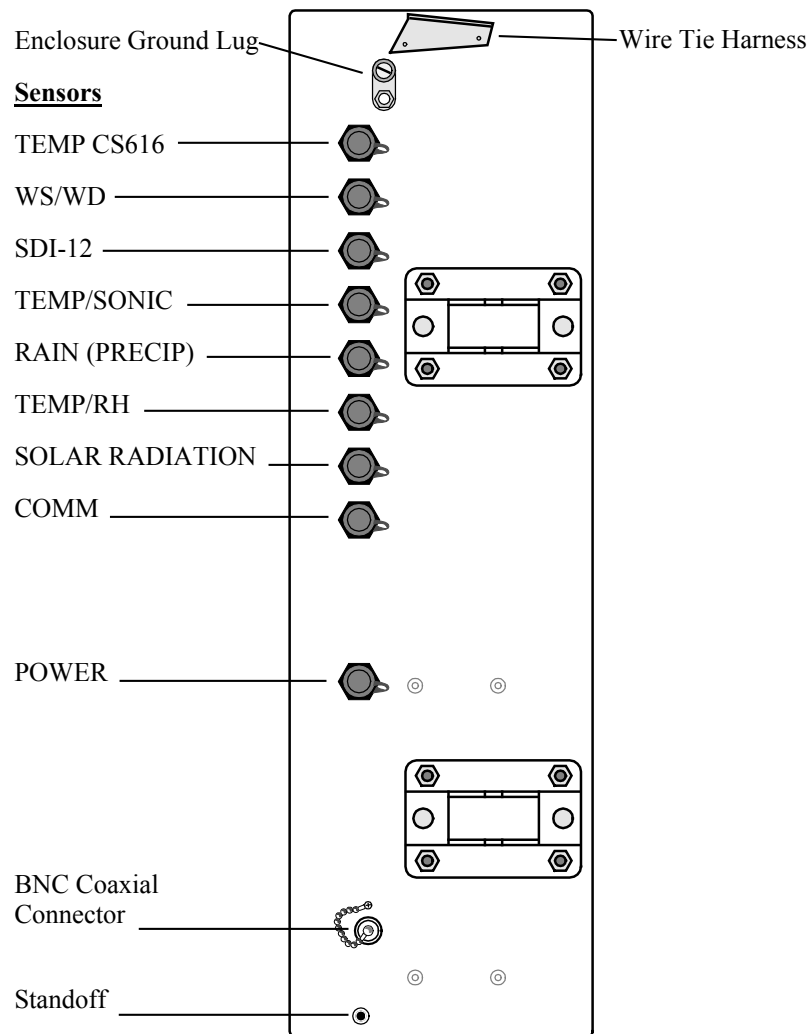

FIGURE 2-21. Position of Sensor Bulkhead Connectors
- Each sensor cable plug attaches to a unique bulkhead connector as shown in FIGURE 2-21. The sensor cables are individually marked to match up with the sensor labeling on the back of the enclosure.